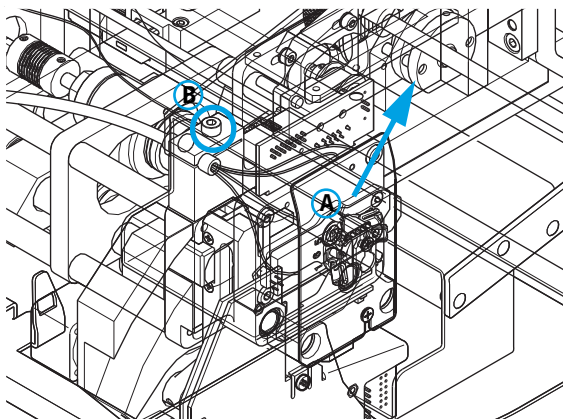

Figure 40 Stages assembly
- 4 Remove the capillary cover (A) and open the thumb screw of the strain relief (B). See Figure 40.